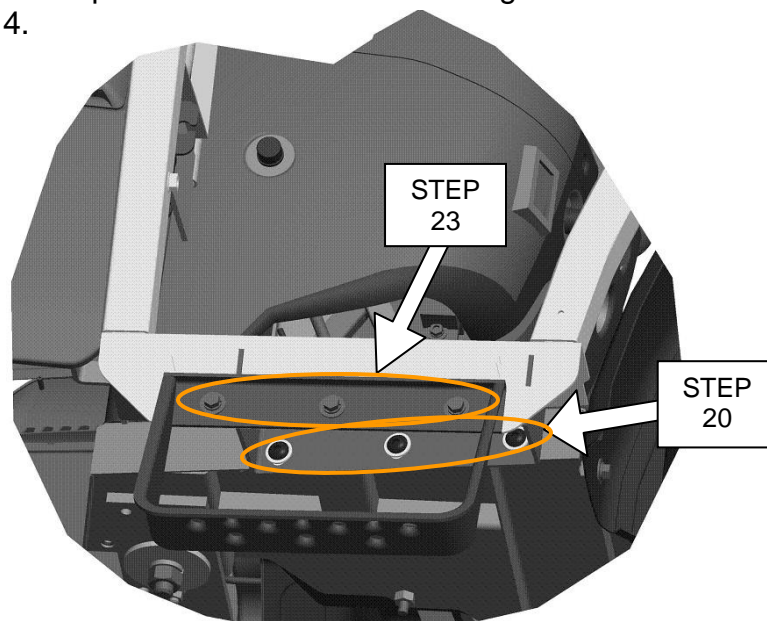

Figure 14
23. Remount platform steps to each side of cab reusing the same hardware from step 3. See figure 14.